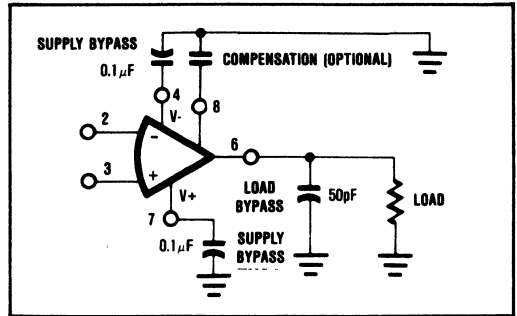
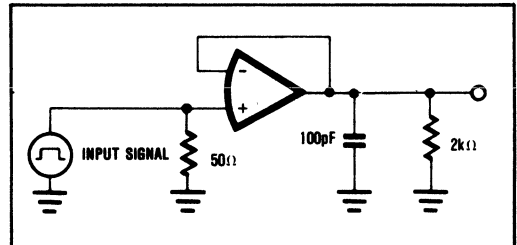

FIGURE 1. Compensated Amplifier with Supply Load Bypassing.
FIGURE 3. Dynamic Response Test Circuit.
1. Capacitance values shown are compensation from pin 8 to common. Not required for stability. See Figure 1. 2. See Figure 3.
The frequency response of the OPA11HT can be adjusted by use of an external compensation capacitor from pin 8 to common as shown in Figure 1. The open-loop frequency response curves illustrate the effect of various values of capacitance. The OPA11HT is stable at any gain level without the use of compensation, provided that stray wiring capacitance and/or load capacitance are not excessive, and that moderate values of feedback resistance are used ($R_{FB} \leq 10k\Omega$). A load capacitance of $\approx 50pF$ is desirable in all feedback configurations.
Because the OPA11HT is an extremely-fast amplifier with high gain, stray wiring capacitance and inductance in power supply leads can cause circuit oscillation. This can be prevented by proper circuit layout (all leads or patterns as short as possible) and by properly bypassing the power supply lines to common at points close to the amplifier. In addition, it is recommended that the load be bypassed by a 50pF capacitor, see Figure 1.
The test circuit of Figure 3 is used for measurement of slew rate, settling time, rise time and overshoot. Both rise time and overshoot are measured for a small output signal ($V_{OUT} = \pm 100mV$). Slew rate and settling time are measured for a 10V, p-p, square wave.